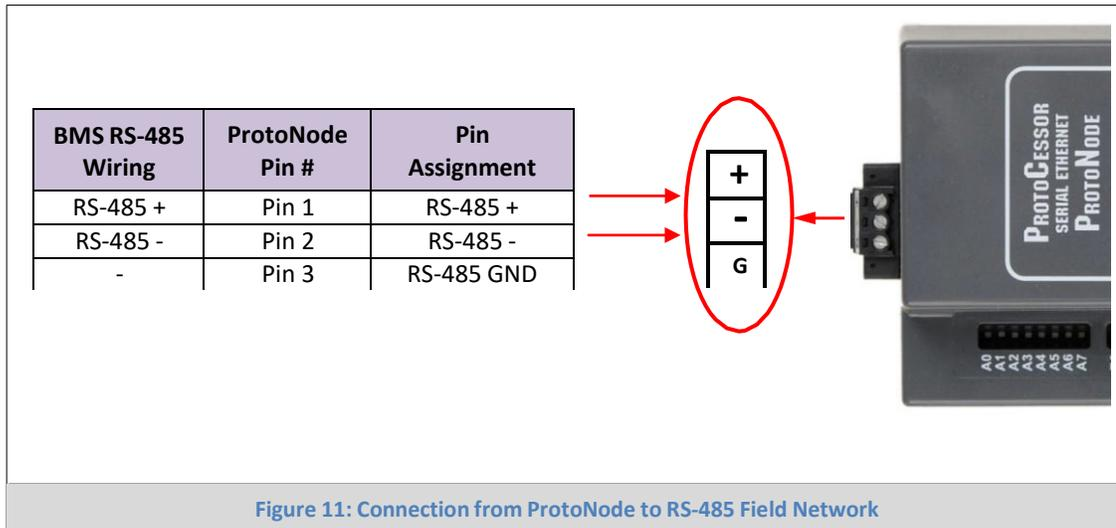

Figure 11: Connection from ProtoNode to RS-485 Field Network
- Connect the BACnet MS/TP or Metasys N2 RS-485 network wires to the 3-pin RS-485 connector on ProtoNode FPC-N34 as shown below in Figure 11.